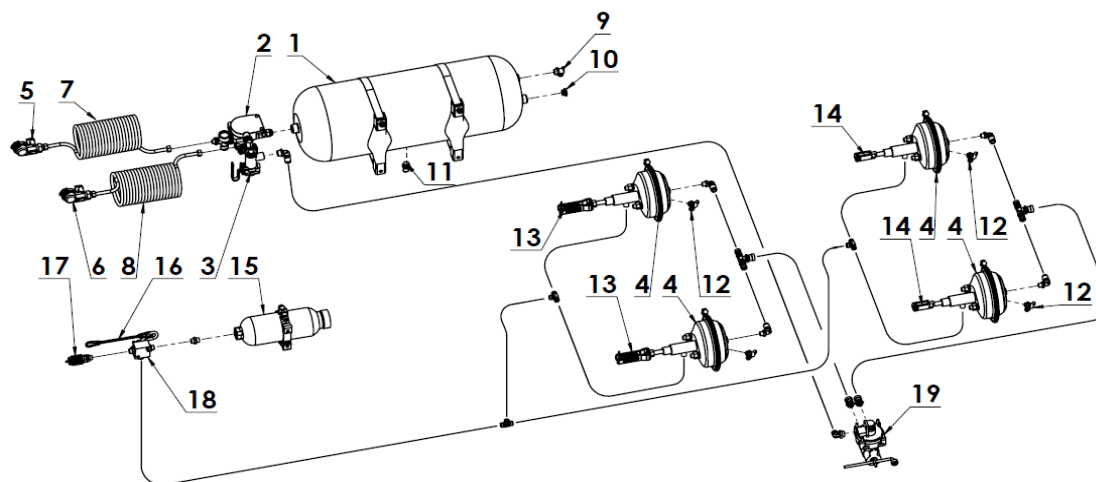

Figure 13 The hydraulic-pneumatic braking system with an ALB valve - N267/2 Spreaders:
- Pneumatic-hydraulic braking system with an ALB valve: N267/2 (Figure 13),